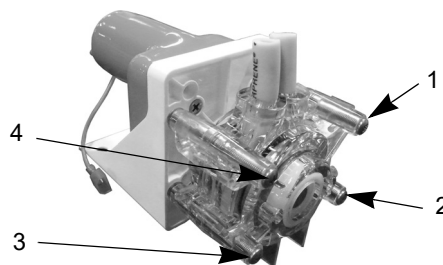

Figure 14. Pump Body Screws
2. Loosen and remove the four screws from the pump body (See Figure 14).
7. While holding the pump halves together with your hand, re-insert the four thumb screws (See Figure 14) and tighten using a criss-cross pattern as shown. The thumb screws should be tightened about 1/4 turn beyond snug.